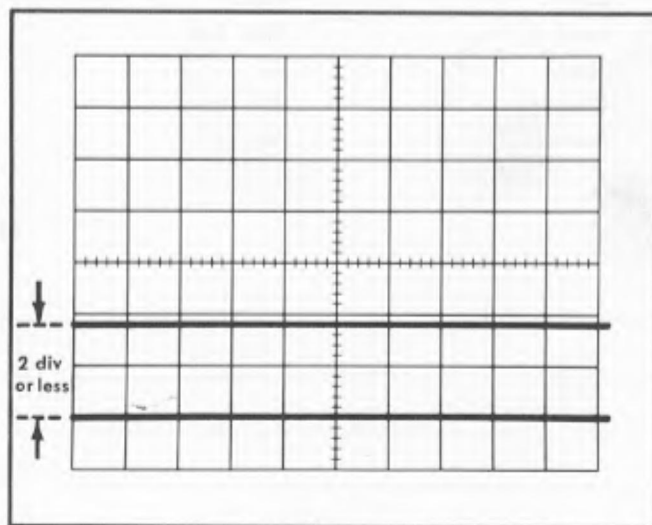

Fig. 5-17. Checking the VARIABLE control 2.5-to-1 uncalibrated range.
b. When the VARIABLE control is set fully counterclockwise, check the amplitude of the display. It should be 1.6 div or less (see Fig. 5-17). This indicates a ratio of 2.5 to 1 or higher. For example, the amplitude of the display shown in Fig. 5-17 is 1.8 div which indicates a ratio of 2.78 to 1 ( $5 \div 1.8 = 2.78$ ) which is higher than 2.5 to 1.